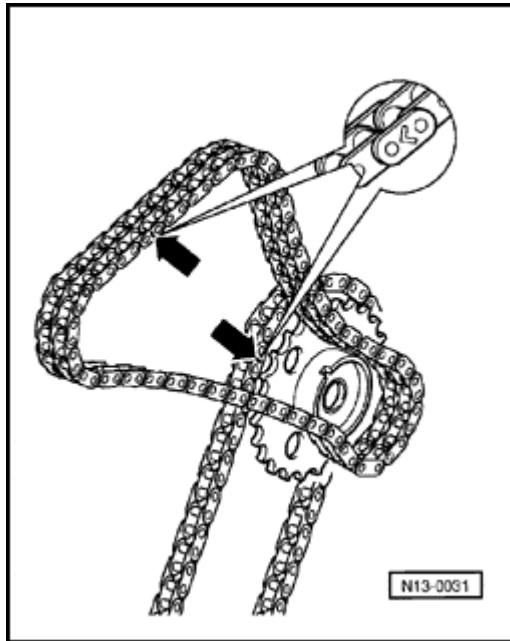

Fig. 1 Marking single and double chains
- Mark direction of rotation before removing ⇒ Fig. 1 .
- ◆ Mark direction of rotation before removing ⇒ Fig. 1 .